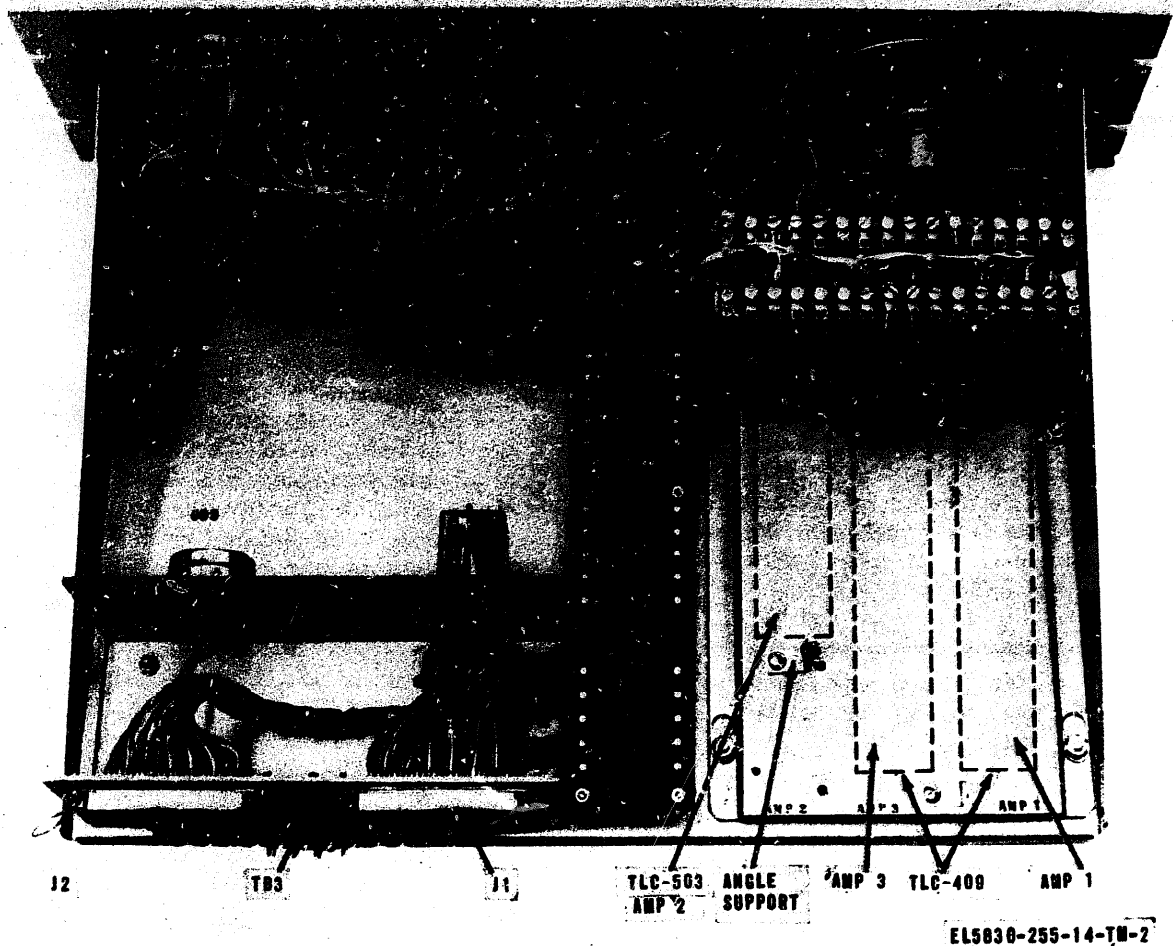
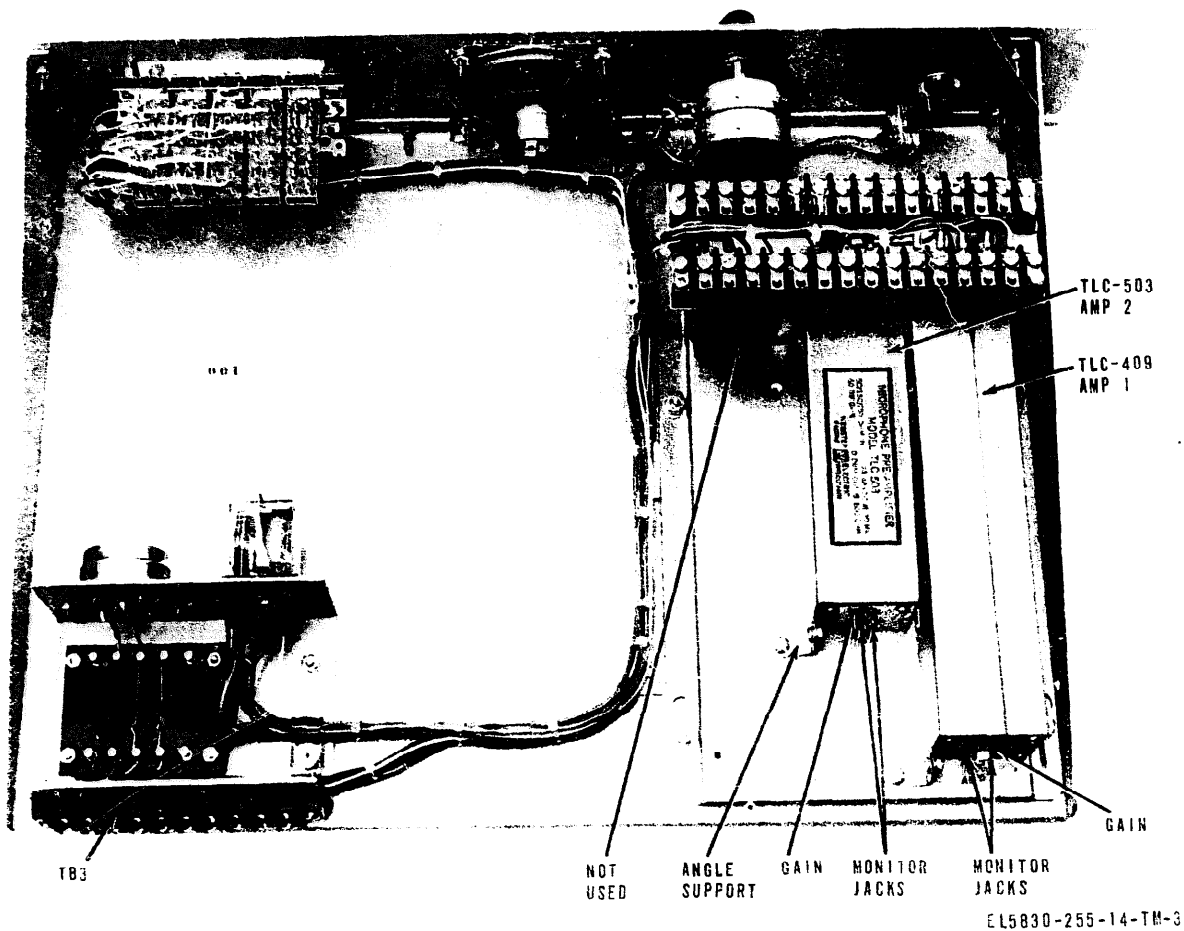

Figure 2-1. Central intercom, internal view.
Figure 2-2. Remote intercom, internal view.
**A. Central Intercom Unit (fig. 2-1).**
(1) See that the three solid state amplifier modules TLC-409(2) and TLC-503 are installed in their plug-in sockets and that angle supports are securely fastened into place.
(2) Make certain that all assembly and part mounting hardware is securely fastened and there are no loose or poorly soldered connections.
**b. Remote Intercom Unit (fig. 2-2).**
(1) See that the two solid state amplifier modules TLC-409 and TLC-503 are installed in their plug-in sockets and that the angle supports are securely fastened in place.
(2) Make certain that all assembly and part mounting hardware is securely fastened and that there are no loose or poorly soldered connections.
(3) Connect the station power source of 48 volts dc to terminals 1 and 2 of TB3, the barrier strip at the rear of the unit (fig. 2-1). Connect